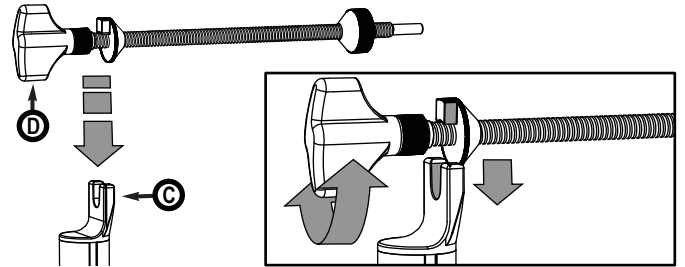

FIG. 2
1. Slide the Wheel Adapter (D) into the Mast Assembly (C).
2. Align the notch of the Wheel Adapter with the slot on the Mast. (FIG. 2)
3. Tighten the Wheel Adapter's (D) Z-knob.